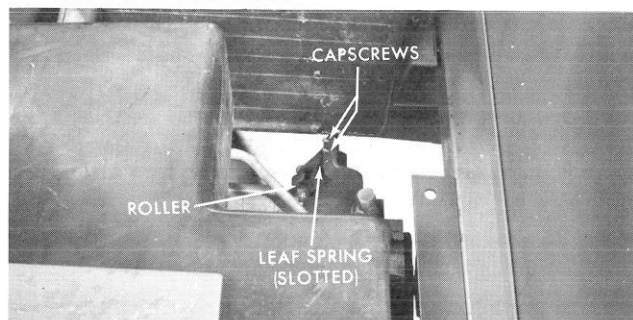

Figure 44
3. Loosen the two capscrews through the leaf spring as shown in Figure 44. The mounting holes are slotted.